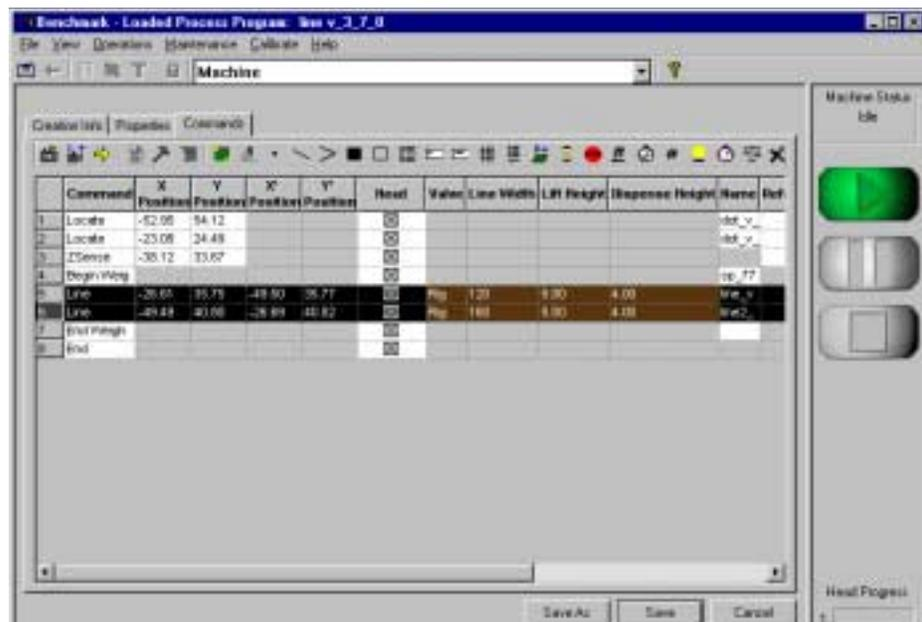

Figure 12
1. With a process program loaded, select **View > Process Program** to display the Process Program Grid. The scrollbar at the bottom of the Process Program Grid is used to navigate to a desired column. See Figure 12.